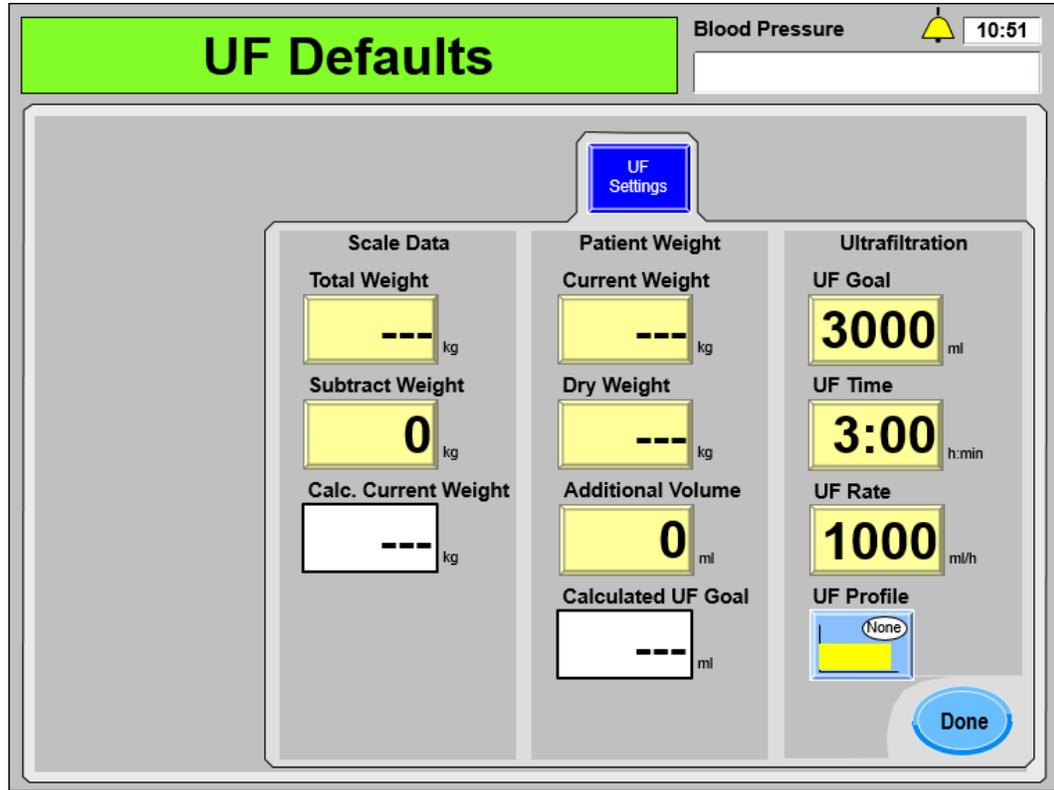

Figure 59 – The UF Defaults Subscreen
Each of the editable dialysate parameters are displayed to the right of the **UF Settings** screen-button. To edit the ultrafiltration (UF) parameters, select the **UF Settings** screen-button. The “UF Defaults” screen will be displayed (see Figure 59 below).